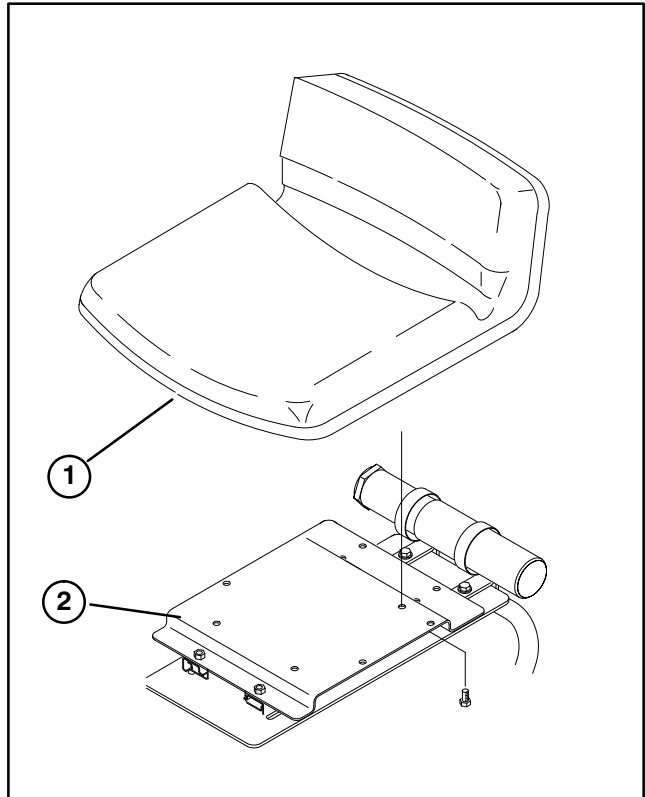

Figure 3
MOUNT SEAT (Fig. 3)
1. Secure seat to seat plate with (4) 5/16–18 x 5/8" lg. capscrews (Fig. 3).